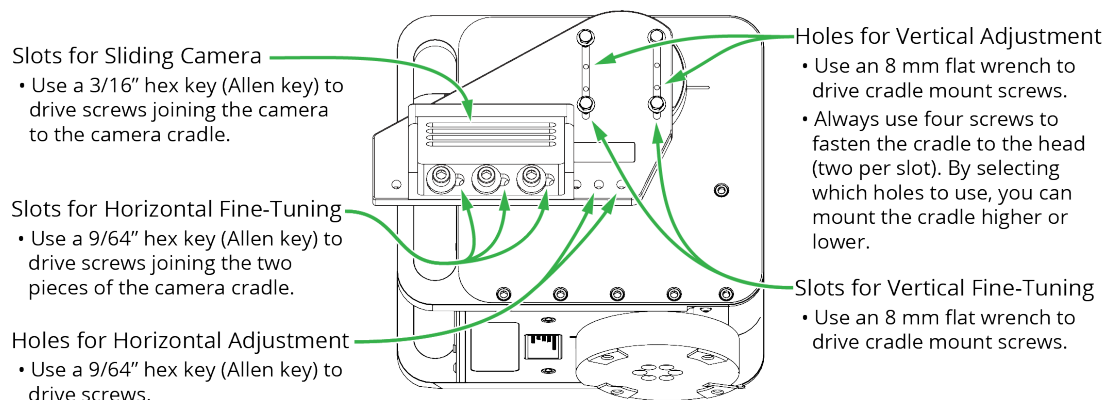

Figure 4 - Payload Balancing Adjustment Features
The head and camera cradle are designed to make balancing easy. **Figure 4** illustrates the following payload balancing adjustment features:
- Use the horizontal adjustment features (**Figure 4**) to move the payload away from the direction it tilted, and then test again.
4. Use the vertical adjustment features (**Figure 4**) to raise or lower the payload as required, and then test again.